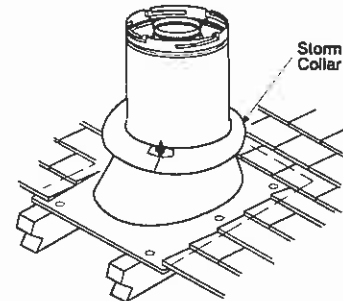

FIGURE 23
J. Install the storm collar - Install the storm collar, supplied with the flashing, over the vent/flashing joint. See *Figure 23*. Loosen the storm collar screw. Slide collar down until it meets the top of the flashing. Tighten the adjusting screw. Apply non-combustible caulking or mastic around the circumference of the joint to provide a water tight seal.